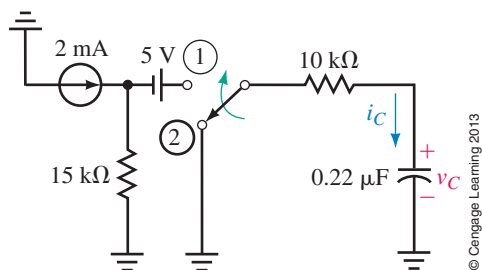

FIGURE 11-59
34. Refer to the circuit of Figure 11-59: